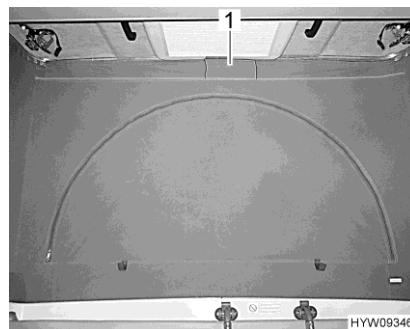

Fig. 52 Ventilation (closed)
- Release the Velcro of the fabric flap (Fig. 52,1) underneath the elevating roof. A mesh is installed behind the fabric flap as protection from insects.